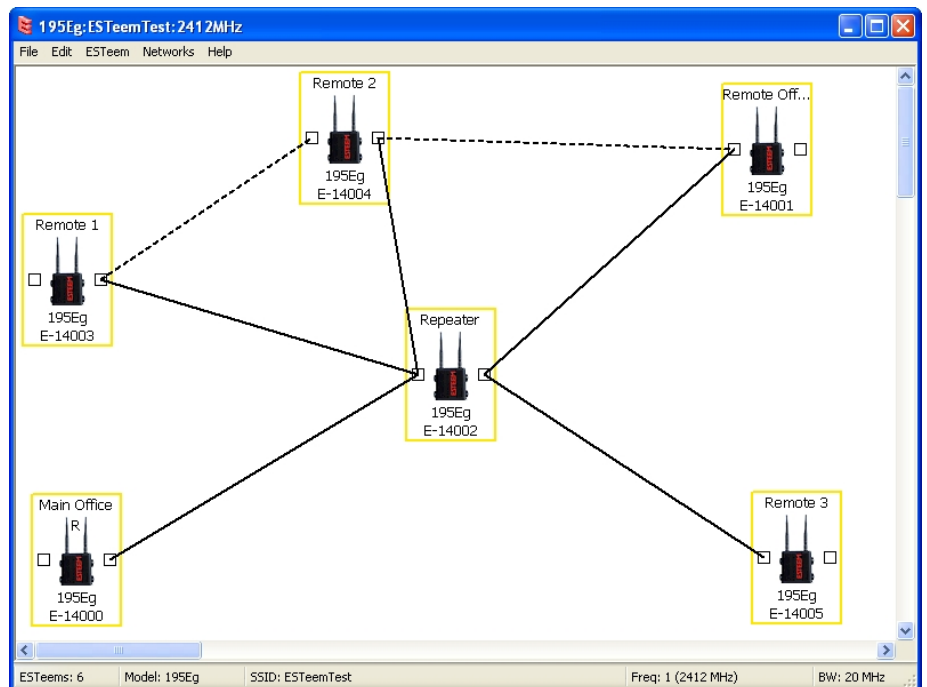

Figure 17: Mesh Network Configuration
- Move the ESTeem 195C/M icons on the screen to simulate the layout of the diagram. Draw connection lines between the primary wireless links modems in the same order as the network layout (Figure 17).
in the repeater Mesh configuration (Figure 17). For detailed instruction on Mesh network configuration, refer to Chapter 7 of this User's Manual.